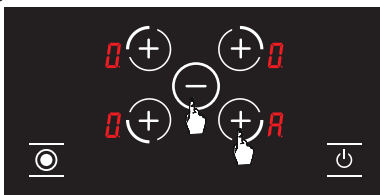

Figure 14
4. After setting the automatic heating, you can set the desired intensity using the corresponding hotplate selection button **0** and the button **H**. (See Fig. 14.) The label and the selected volume alternate on the screen.